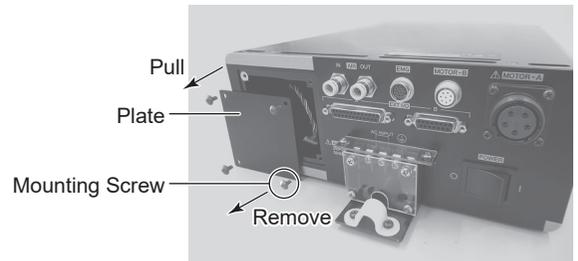

Fig. 22
- (2) Remove the screw from the Plate and pull the Plate from the CONTROLLER (Fig. 22).